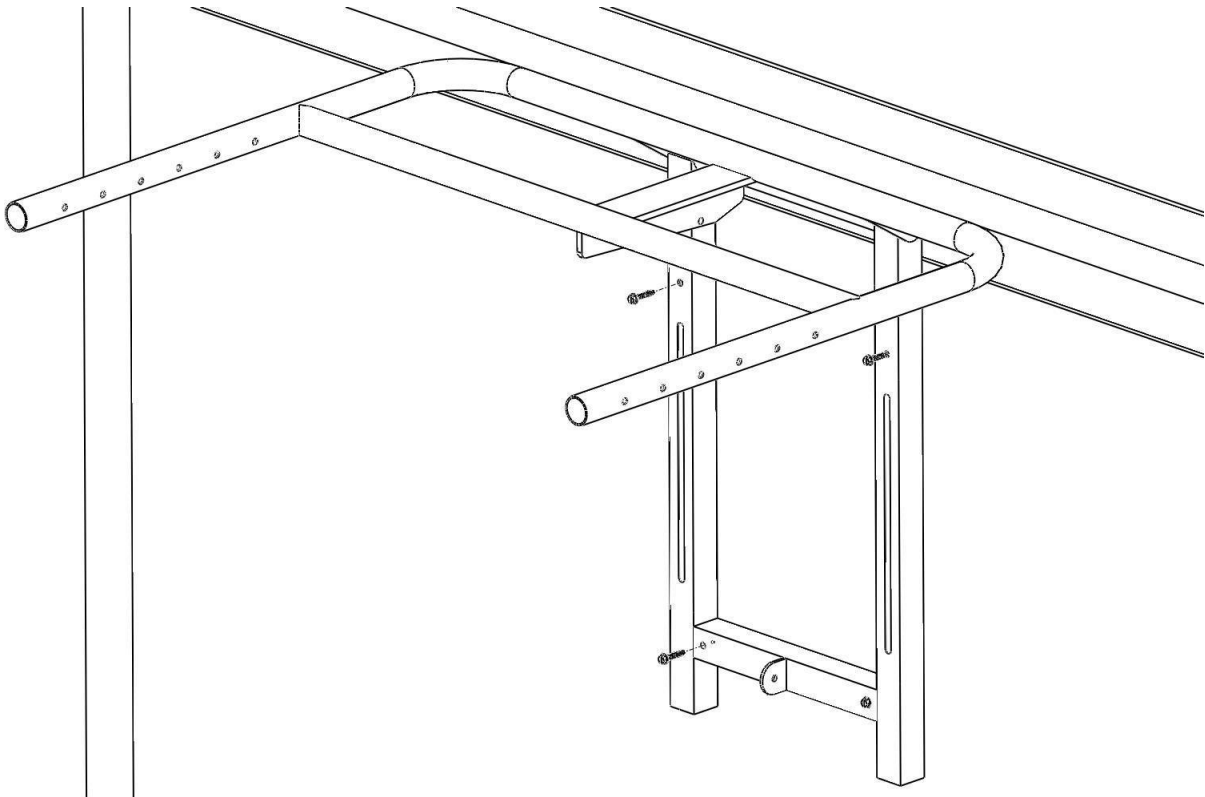

Figure 7
7. Mount the ccAA Main Unit to the side of the spa using the ccZ Lag Bolts. See Fig 7.